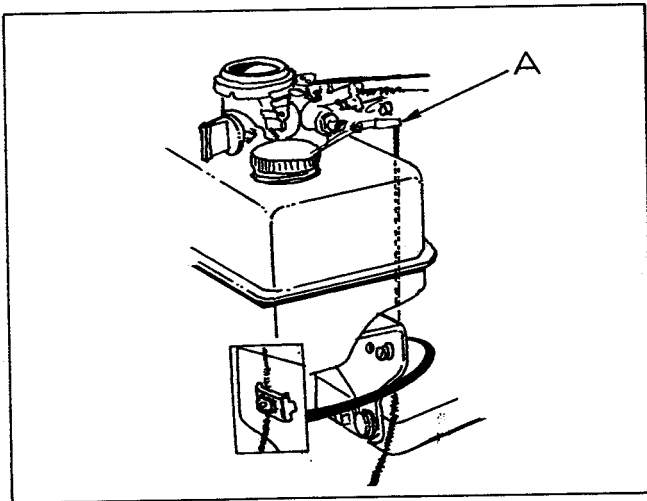

Figure 5.
- c. See Figure 5. Route cable under right side of belt cover, along right side of engine, and up between fuel tank bracket and starter. Install control wire on throttle control lever (A). Throttle control lever must be down and the governor spring relaxed.